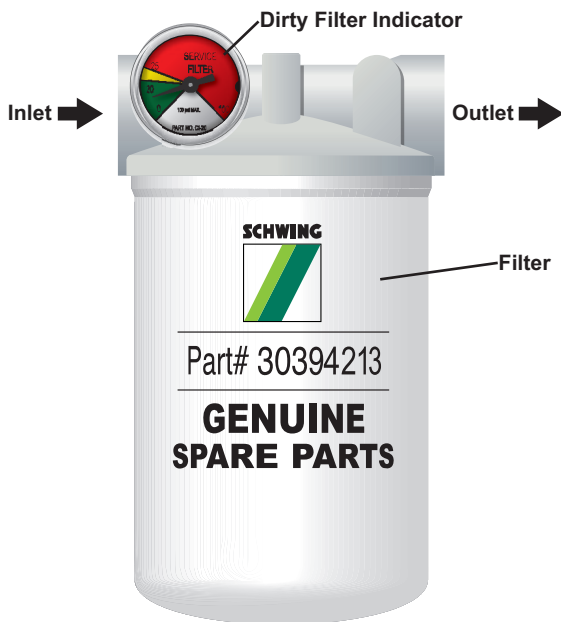

Figure 3
- Your concrete pump is equipped with a recirculation type of filtration system, meaning that there is a pump that sucks oil from the reservoir, pumps it through the filter and cooler, and back to the tank. Whenever the engine is running, oil is being filtered. The filtration is done with a spin-on filter assembly (Figure 3). It is equipped with an integral bypass check valve set at 25 psi. The bypass valve protects the filter element from damage, as explained below. The assembly is equipped with an anti-back-flow check valve, which prevents oil from draining out of the tank while you are changing the spin-on element. There is a dirty filter indicator to tell you when the element is dirty. You should replace the element whenever the indicator enters the yellow area and the oil is heated above 20°C. Under normal circumstances, the element will need replacement about every 6 months. The element has been designed to remove all particles large enough to cause undue wear and jobsite breakdowns ($\beta_{10} = 200$). You can keep the hydraulic system running year after year by replacing the element when replacement is due. Do not substitute "will fit" elements in this housing.